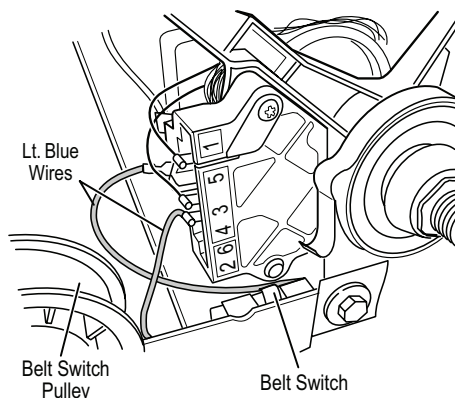

Figure 10. Checking the belt switch.
7. Check the belt switch by measuring resistance between the two light blue wires, as shown in Figure 10, while pushing up the belt switch pulley.